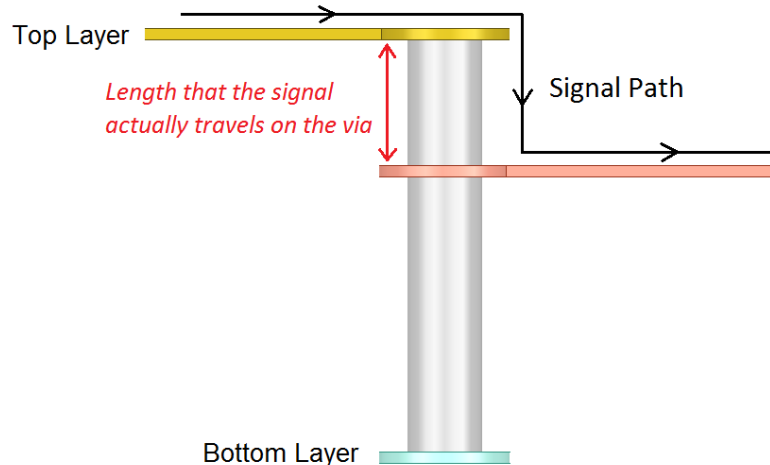

Figure 1. Length that the signal actually travels on the Via
5. At a speed of 3200 MT/s, signal vias can be a significant source of crosstalk. If not properly designed, it can introduce crosstalk larger than that from the trace. To minimize via crosstalk, make sure the total number of vias to be two or less on each point-to-point single-ended/differential trace. Place at least one ground stitching via within 40 mils of signal via when switching reference planes to provide continuous return path and reduce crosstalk. If it is not possible to place enough ground stitching vias due to space limitation, try to make the length that the signal actually travels on the via as short as possible, as illustrated in **Figure 1**.